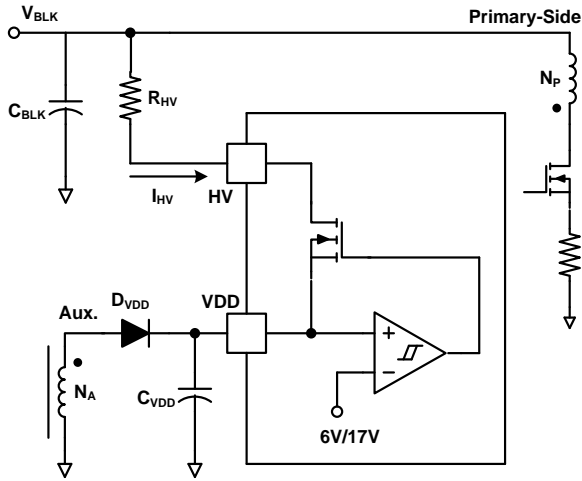
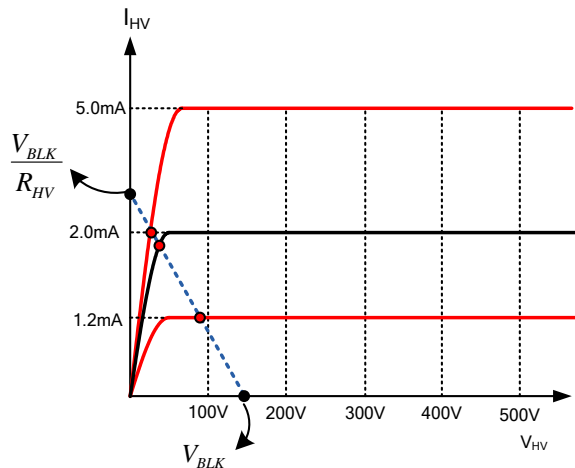

Figure 30. HV Startup Circuit
Figure 31. V-I Characteristic of HV Pin
Figure 30 shows the high-voltage (HV) startup circuit for FAN501A applications. The JFET is used to internally implement the high-voltage current source (see Figure 31 for characteristics). Technically, the HV pin can be directly connected to voltage (V_{BLK}) on an input bulk capacitor. To improve reliability and surge immunity, however, it is typical to use a ~100 k Ω resistor between the HV pin and bulk capacitor voltage. The actual HV current with a given bulk capacitor voltage and startup resistor is determined by the intersection of V-I characteristics line and load line, as shown in Figure 31.